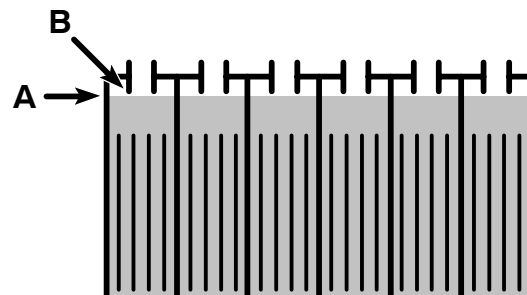

FIG. 38
3. Check the electrolyte level (A) in each battery cell **after charging batteries**. The level should be approximately 1 cm from the bottom of the fill-port (B). Add distilled water if needed (Figure 38). **DO NOT OVERFILL.**